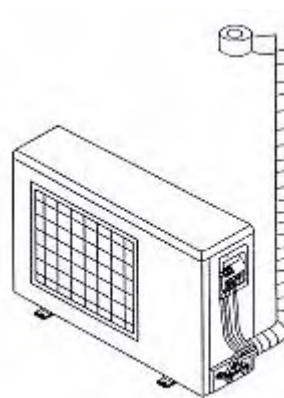

Fig.11-22
- d) Tie strap the heat insulation tapes on the outdoor unit from the bottom, until the upper end of the pipe is deep in the wall. When tie strapping the heat insulation tapes, each circle shall compress half of the tapes in previous circle. See Fig.11-22.